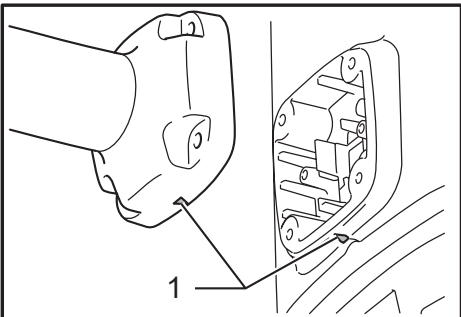

Fig.4
► **Fig.4:** 1. Triangle alignment mark